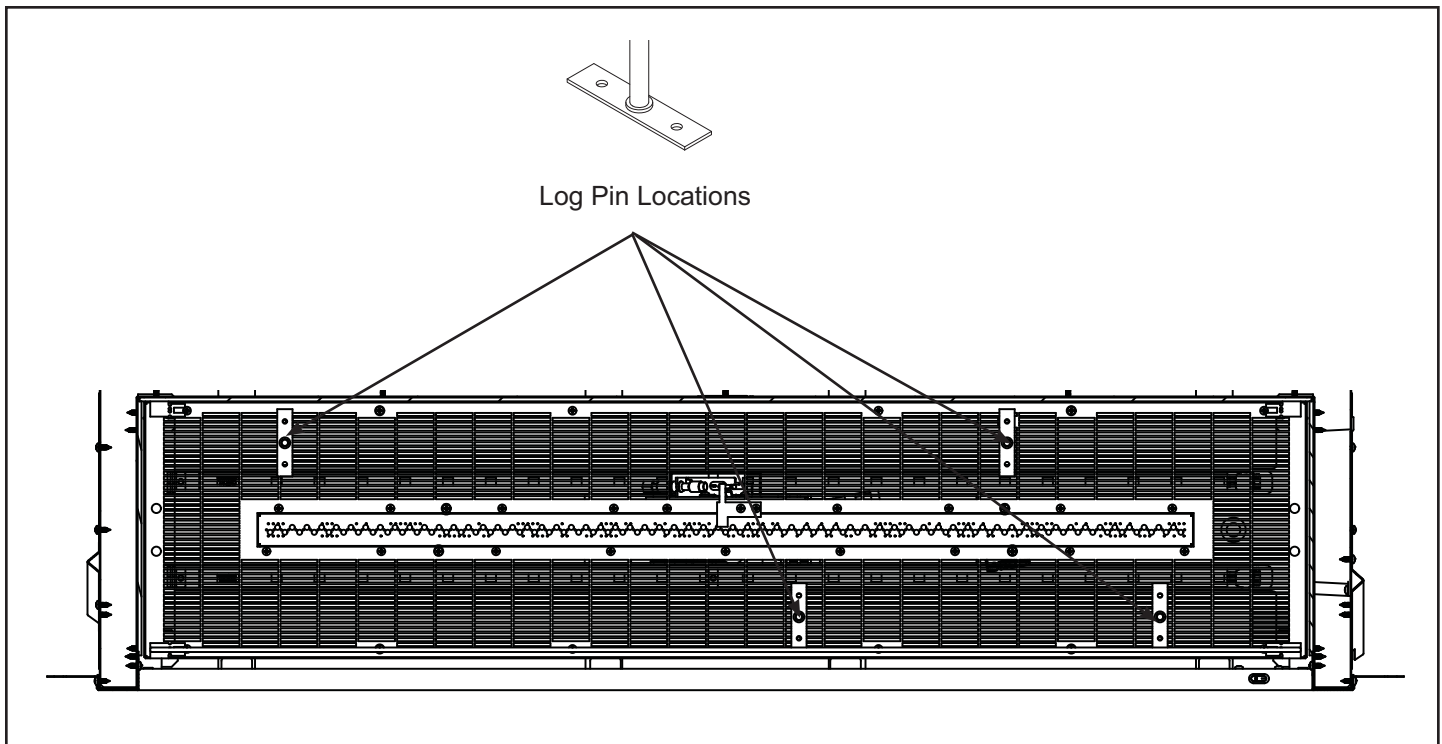

Figure 7.5– Log Pin Placement for AVFL42N(P)IP-BU, AVFL42N(P)IP-RB, AVFL48N(P)IP, AVFLST48N(P)IP, ODLANAIG-48 AND ODLANAIGST-48
- Three (3) driftwood logs
- Six (6) log support pin brackets
- Six (6) #8 bracket mounting screws
**NOTE:** Prior to installing the log set, you must first install the pin brackets on the burner. The air deflection glass and glass media should only be installed after the pin brackets are in place. The air deflection glass should be installed prior to placing glass media on the burner. The logs must then be placed in the unit after the glass media and air deflection glass. If the optional logs are added to the appliance after installation of deflective glass and glass media, move the glass media away from the pin location holes on the firebox bottom assembly as per Figure 7.5 or 7.7.
1. Mount the four log support pin brackets using mounting holes and screws provided in locations indicated in Figure 7.5 for the front and rear log. Only one hole of the pin bracket will be used to secure the pin to the outside of the burner assembly base. The other hole remains unused and rests on the mesh area. Next, arrange glass media evenly across the burner again.